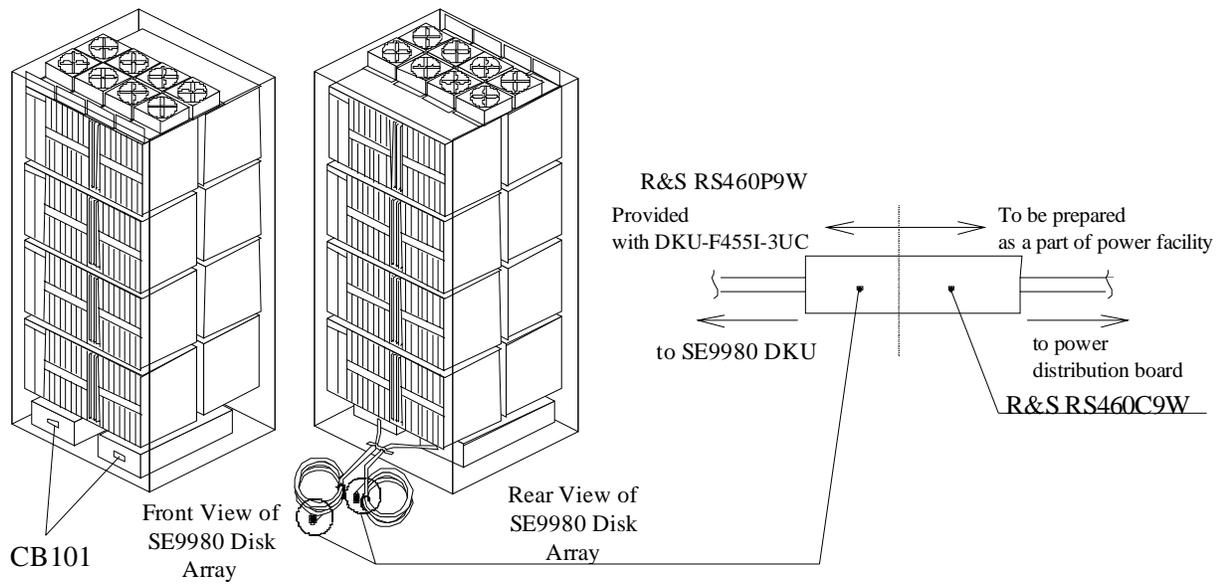

Figure 27 Power Plugs for Three-Phase Sun StorEdge 9980 Disk Array Unit (USA)
- Figure 27 illustrates the power plugs for a three-phase Sun StorEdge 9980 disk array unit (USA).